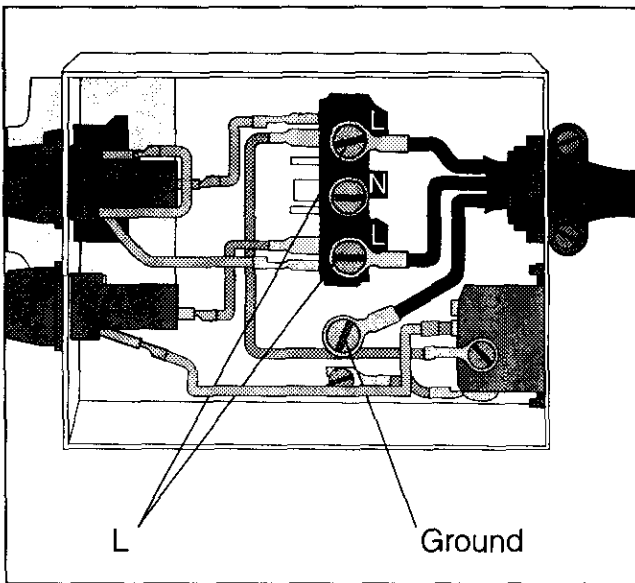

Figure 10.
9. Attach the two remaining power cord outer conductors to the 2 terminals labeled L. Tighten both screws so that the power conductors are securely held in place. See Figure 10.